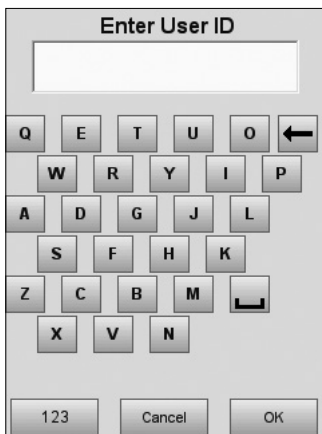

Fig. 4-2 Enter User ID
2. If **<Non Secure User ID Entry>** is enabled in the security settings (see Section 3.2.3), you will be asked to enter the user ID (Fig. 4-2).